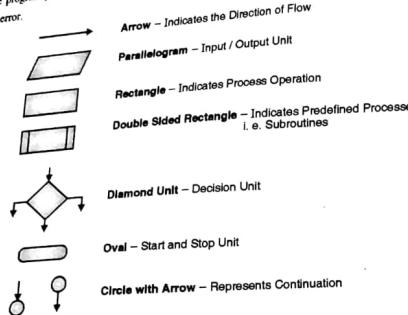

Fig. 5.2.1 Flowchart symbols
- (1) To assist and clarify the thinking process.
- (2) To communicate the program logic to others.
- With the program structure clearly defined in blocks, the flowchart can be converted directly into a set of instructions, using any programming language. Symbols commonly used in flowcharting are as shown in Fig. 5.2.1.